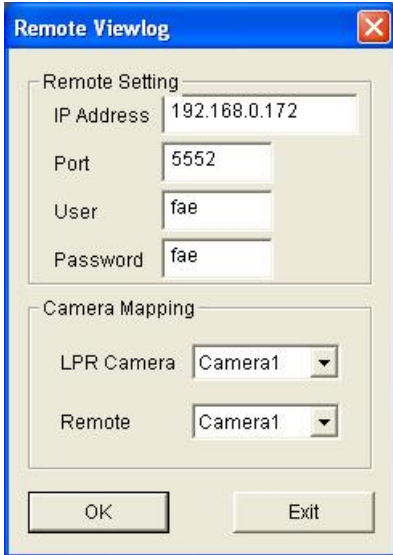

Figure 3-60
1. In the Database Configuration dialog box (see Figure 3-60), use the drop-down list beside [Table lists] to select your data source.